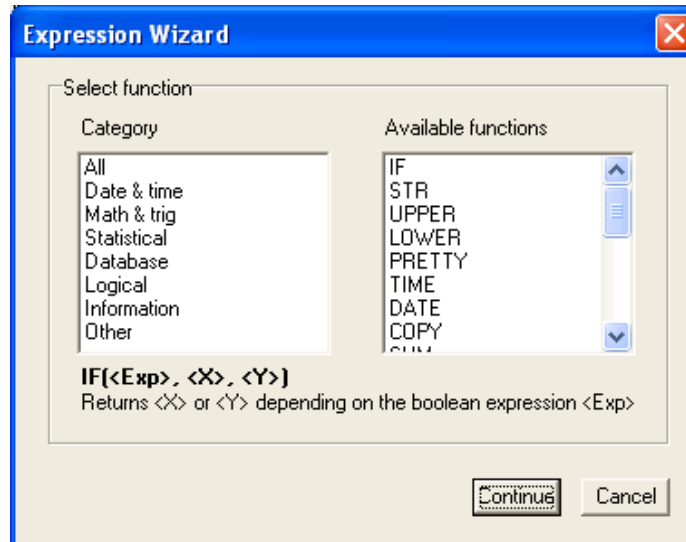

Figure 31 - Select Function Window
10. Click on the **Function** button to go to the **Select function** (Figure 31) window. After selecting the required function, click on the **Continue** button to close the **Select function** window and return to the **Expression Wizard**.